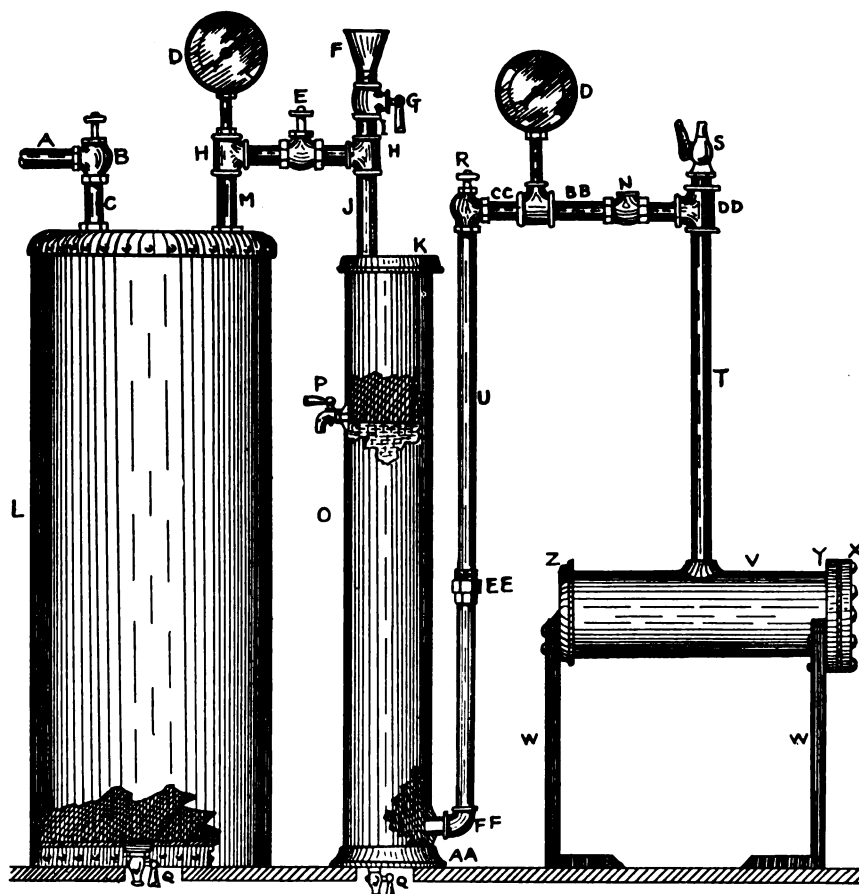

FIG. 3—SHOWING MR. WAYCHOFF'S IMPROVED OXYGEN GENERATOR
The list of materials necessary for making the oxygen generator is as follows. See Fig. 3.
To make the generator (Fig. 3) take the boiler or tank (L) and plug up the side hole, then put in the two top pipes, as shown in the illustration, also the drain cock (Q) in the bottom.
shape to fit the lower half of the retort. This makes it much easier to clean out the retort, as the tray can be drawn out and cleaned on the outside and filled before replacing in the retort. The illustration at Fig. 4 is of another oxygen generator which is simpler to make, and if a large tank be used it is equally as good as the one in Fig. 3. The purpose of the scrubber is to make purer gas. The water absorbs the chlorine and other impurities from the oxygen while passing through it. The generator, Fig. 4, is briefly explained, as it is made the same way as Fig. 3, only the scrubber is omitted. A tank 24 inches in diameter should be used, and being kept half full of water makes a scrubber of it.